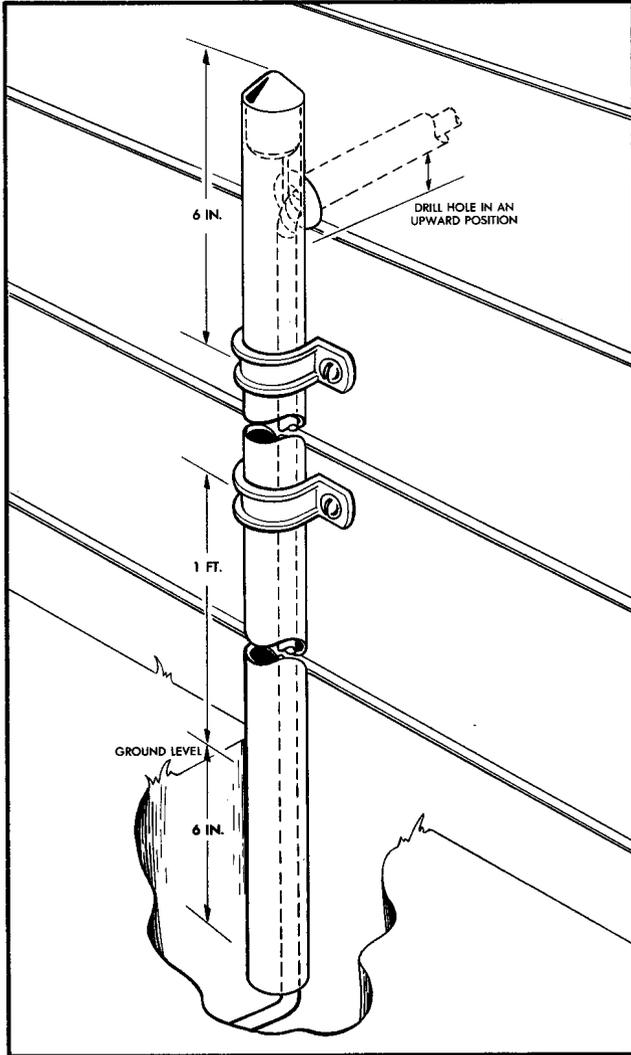

FIGURE 5. House and Building Riser
- g. Insert plug into top of riser and secure riser to the building with clamps. Backfill hole. See Figure 5.